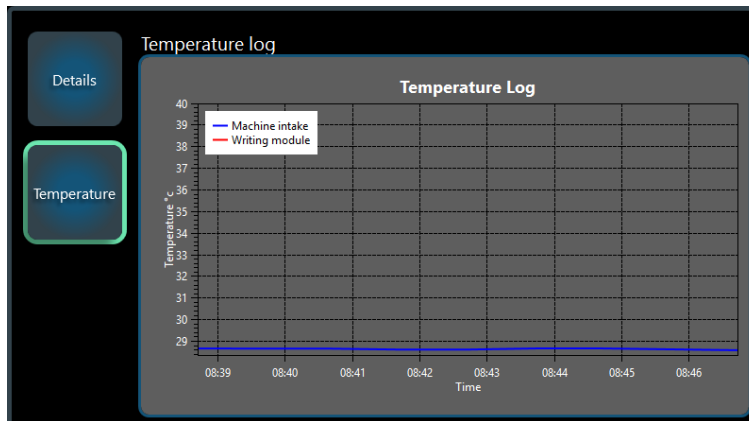

Figure 4-13 Temperature data
2.2. Click **Temperature** to see the temperature data for the project, see **Figure 4-13 on the facing page**. Data are given for the writing module and the machine air intake.